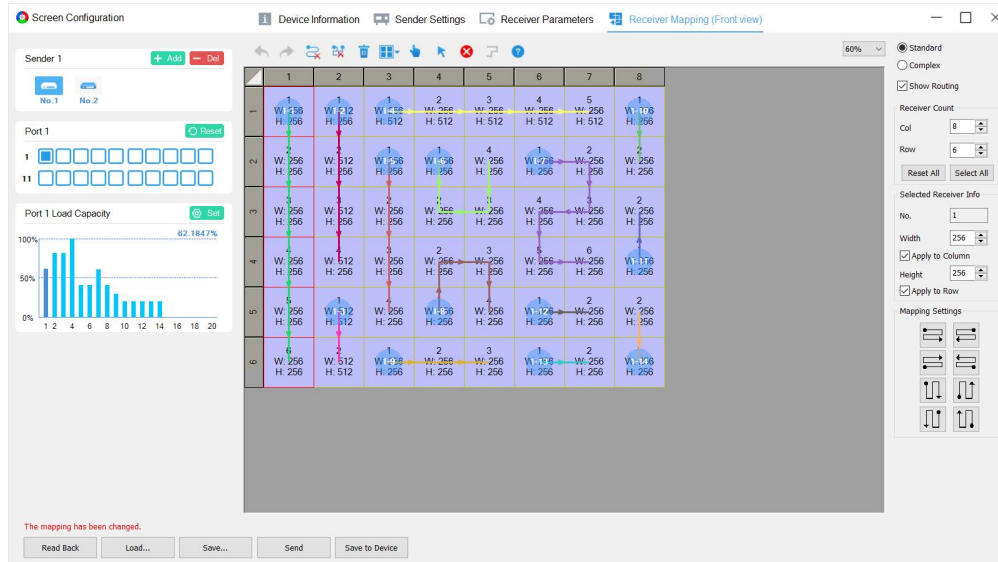

Fig 2.4.1 Cabinet mapping settings
Step 3: Select the corresponding Ethernet port and set the cabinet mapping according to the number of cabinets and the physical connections under each Ethernet port, as shown in Fig 2.4.1.